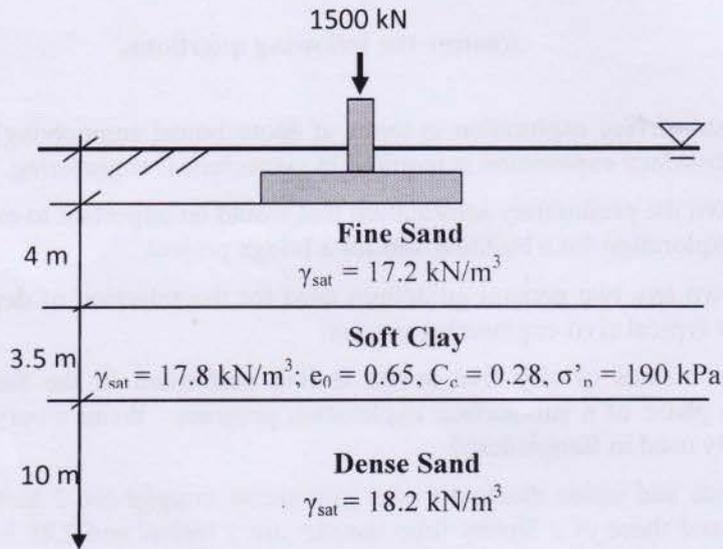

Figure 2
2. (a) Calculate the settlement of the rectangular footing (dimension 2 m x 3 m) in the soil profile shown in Figure 2, due to primary consolidation settlement of the soft clay layer. Use 2:1 pressure distribution. The thickness of clay layer should be 1 m or less in settlement calculation. 15